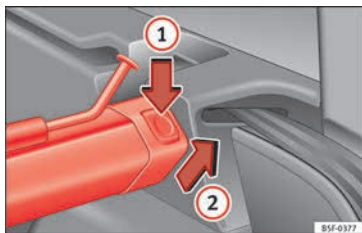

Fig. 167 In the luggage compartment: removing the net partition.
- Press the left or right release catch »» Fig. 167 in the direction of the arrow (1).
- Remove the casing from the support in the direction of the arrow »» Fig. 167 (2).
- Press the casing into the left and right supports in the opposite direction to the arrow »» Fig. 167 (2) until it engages.